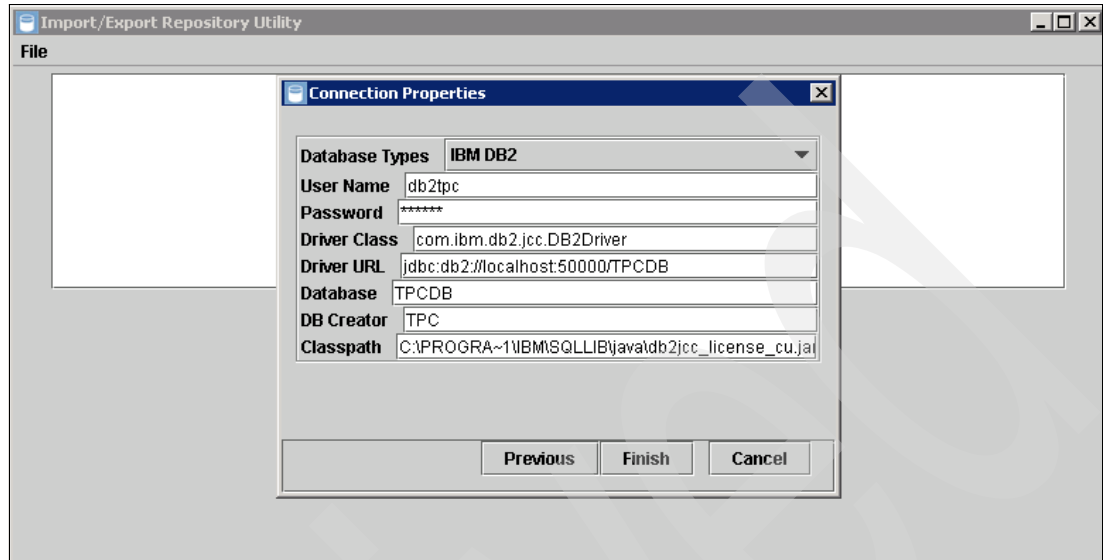

Figure 6-83 Enter the database connection properties information
5. Click **Next**. The Connection Properties panel displays. See Figure 6-83 on page 305.
6. In this step, the utility reads the information that is detected in the server.config file. You can locate this server configuration file under the \tpc\data\config directory (see Figure 6-83).